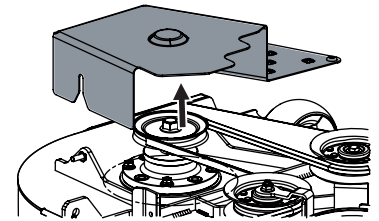

Figure 56
- Remove the belt covers from the deck. See Figure 56.